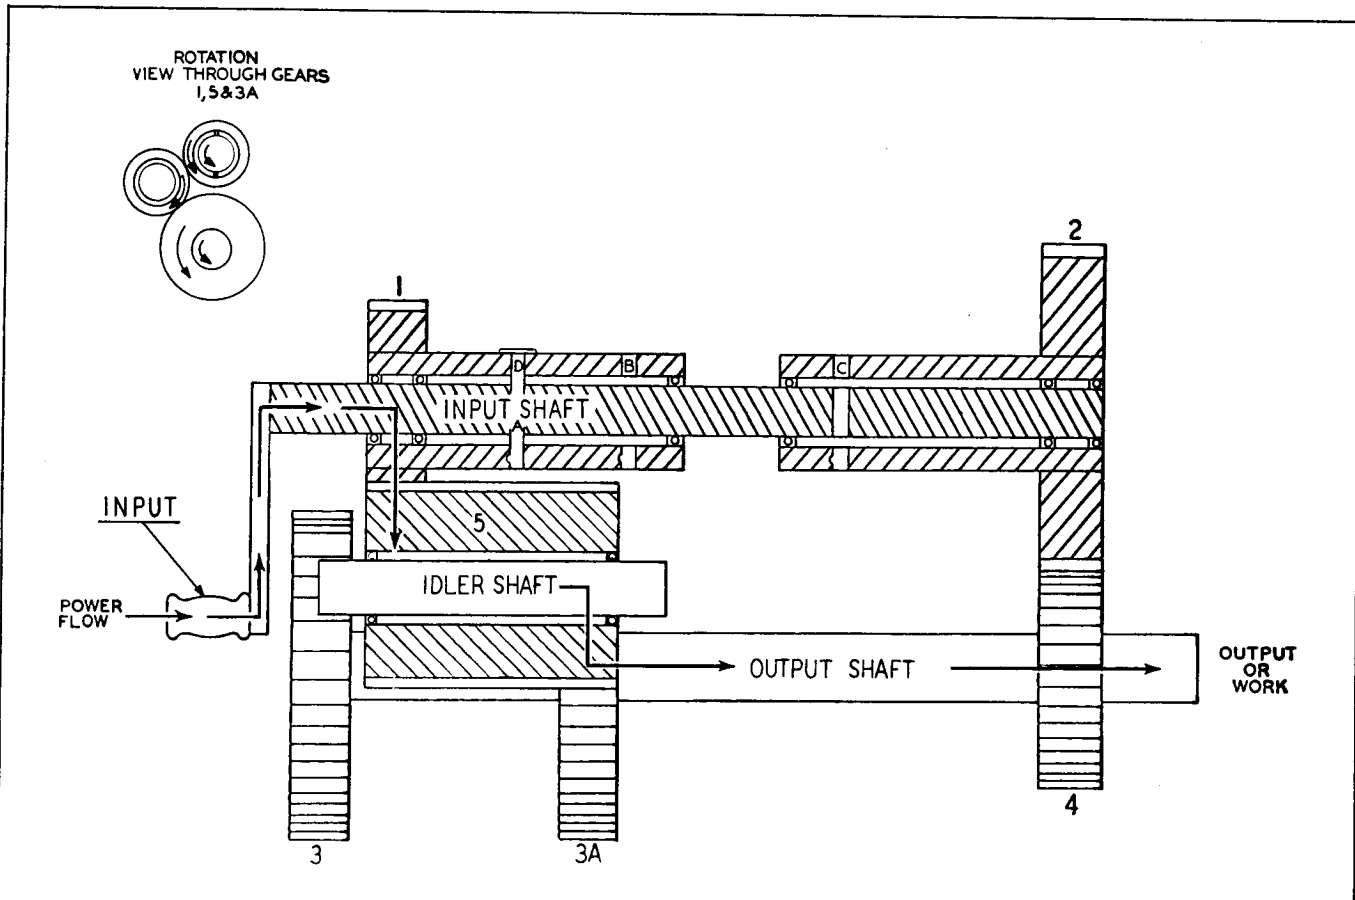

Figure 1-19
Let us slide the low range driving gear (1) along the input shaft until it meshes with the reverse idler gear (5). At this point we will have a hole (D) in the gear sleeve in line with the original hole in the input shaft and insert the pin (A). Now when the crank on the input shaft is turned, the low range driving gear (1) being pinned to the input shaft, turns with it. The low range driving gear (1) is in mesh with the reverse idler gear (5) and causes it to rotate. The reverse idler gear (5) is in mesh with the reverse driven gear (3A) and causes it and its integral output shaft to turn (Fig. 1-19).
As the low range driving gear (1) and the reverse idler gear (5) are the same diameter as are the low range driven gear (3) and the reverse driven gear (3A), the ratio for reverse is identical to low range forward (Fig. 1-19).